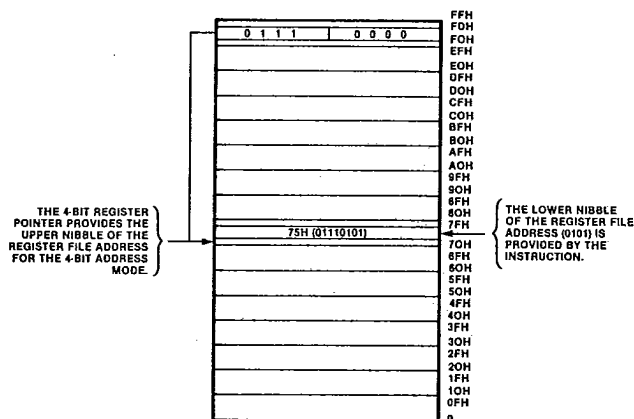

Figure 6. Register Pointer Mechanism
UPC instructions may access registers directly or indirectly using an 8-bit address mode or a 4-bit address mode and a Register Pointer. For the 4-bit addressing mode, the file is divided into 16 working register groups, each occupying 16 contiguous locations (Figure 6). The Register Pointer (RP) addresses the starting point of the active working-register group, and the 4-bit register designator supplied by the instruction specifies the register within the group. Any instruction altering the contents of the register file can also alter the Register Pointer. The UPC instruction set has a special Set Register Pointer (SRP) instruction for initializing or altering the pointer contents.
**Stacks.** An 8-bit Stack Pointer (SP), register R255, is used for addressing the stack, residing within the 234 general-purpose